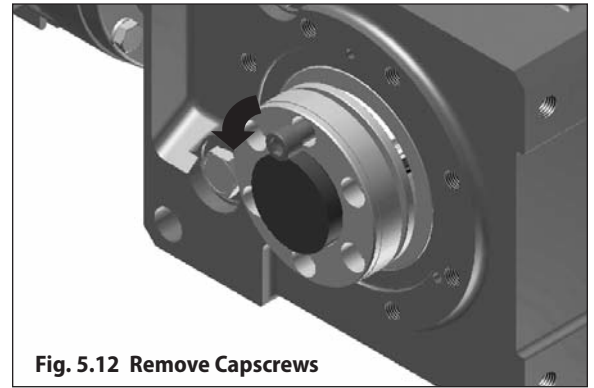

Fig. 5.12 Remove Capscrews
Step 5 – After the liquid penetrant has been allowed to settle, remove the capscrews one at a time (see Fig 5.12).